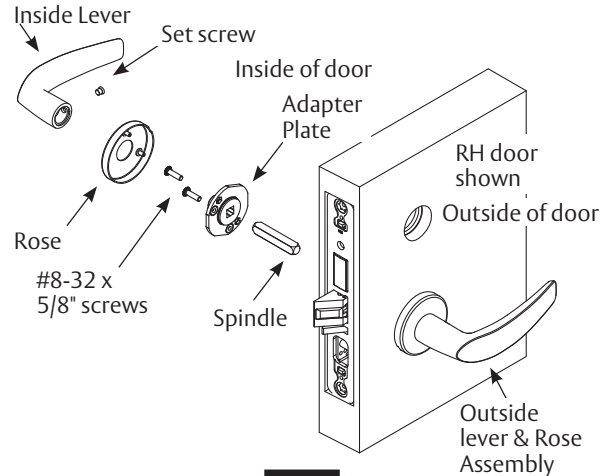

Figure 8
1. Slide outside lever and rose assembly through door and lock body, and hold. (Figure 8)
4. Secure with two (2) #8-32 x 5/8" screws.